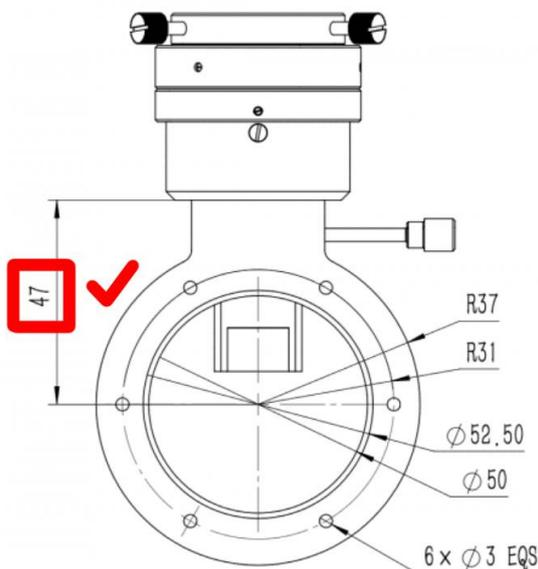
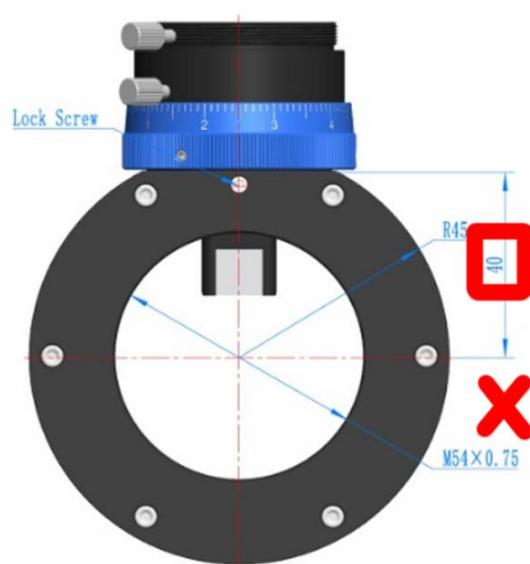

Figure 4
Figure 5
**Necessary Condition 2:** The distance from the optical axis center of the OAG to the bottom protrusion of the OAG focuser must be at least 45mm. For example, the red-marked dimensions in Figure 4 meet the installation requirements, whereas the red-marked dimensions in Figure 5 do not.